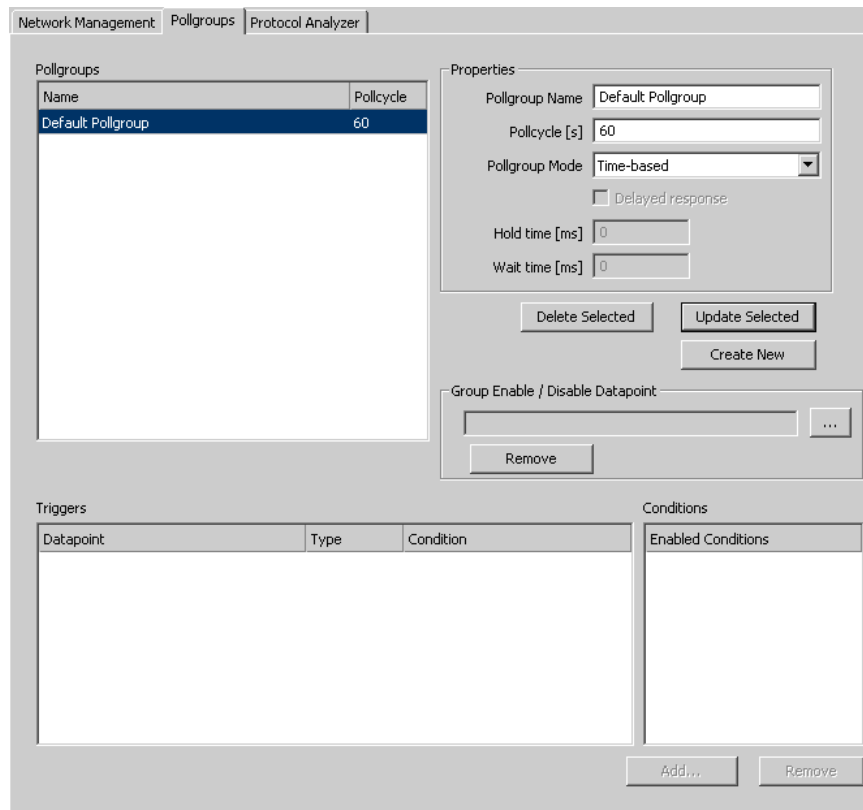

Figure 218: Pollgroup Management dialog.
2. Open the **Pollgroups** tab. This shows the dialog displayed in Figure 218.
2. In the **M-Bus Management** dialog, open the **Pollgroups** tab. This displays the poll groups management tab displayed in Figure 218.